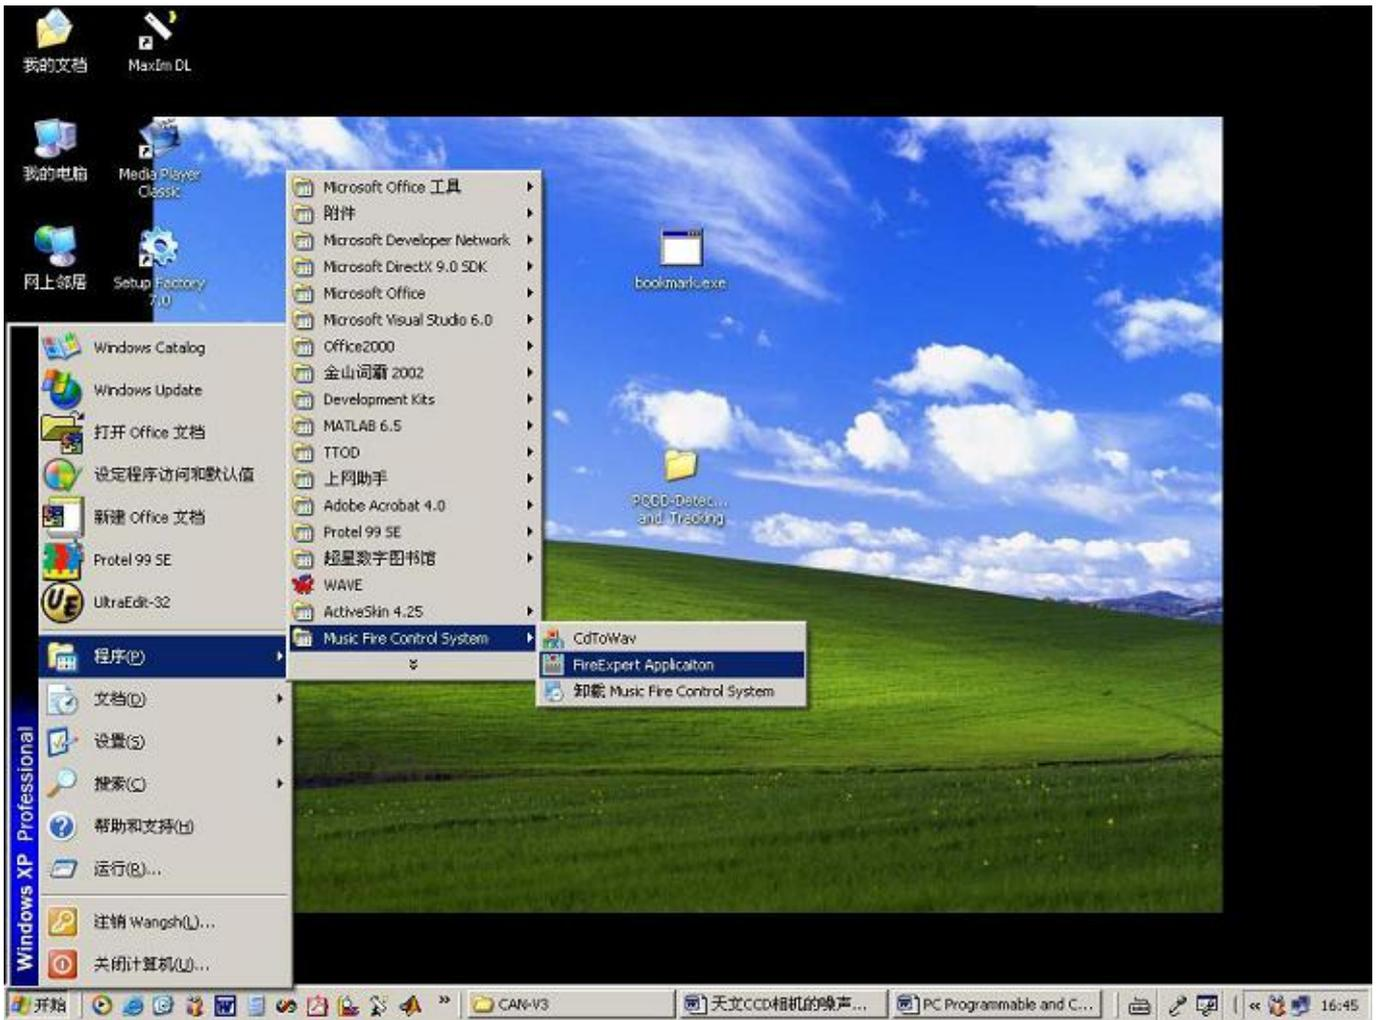

fig 12 Desktop
1. On the desktop of WINDOWS (fig 12), double click the icon “Fire Expert Application“, or click the “Fire Expert Application” in the folder of “Program” “Music Fire Control System”, then the software of the control system will start up.